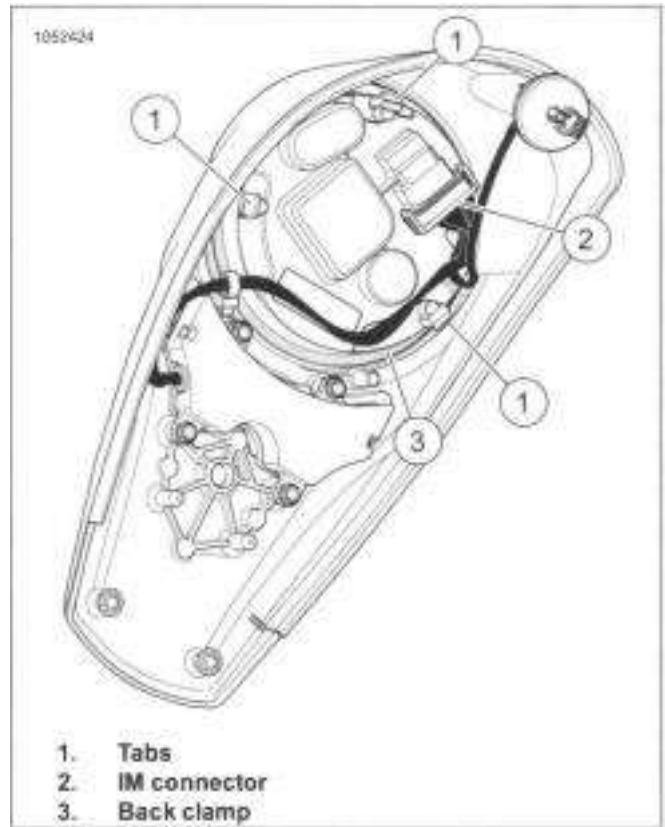

Figure 7-31. Console: FLHCS, FLFBS (Typical) **Install**
1. See Figure 7-31. Disconnect IM connector (2).
- a. Pry between the tabs (1) and back clamp (3).
3. See Figure 7-31. Install back clamp.
- a. Press on back clamp (3) until three tabs (1) engage on back of IM.
4. Connect IM connector (2).